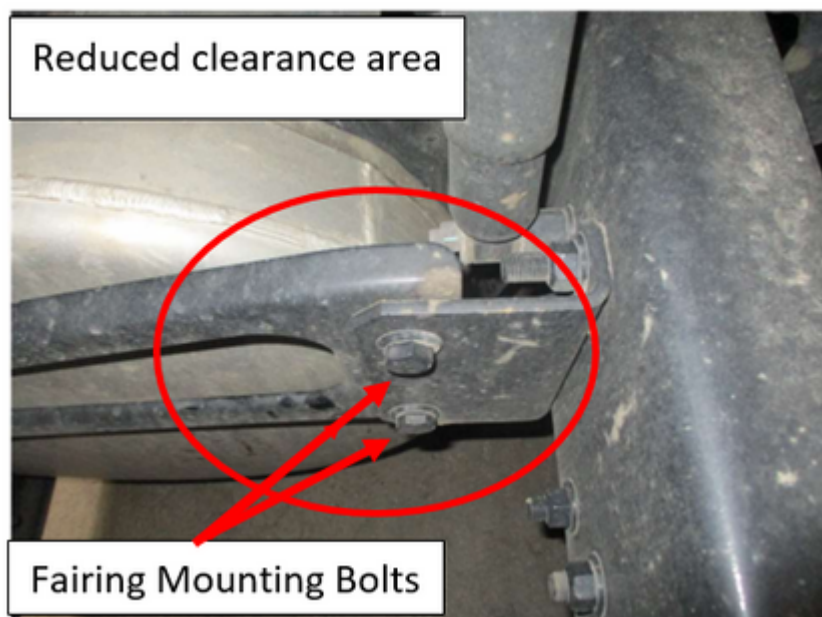

Figure 2: Reduced clearance at the Fairing Frame mounting Bracket area.
a) To increase clearance at the Frame mounted Fairing Bracket area shown in Figure2: